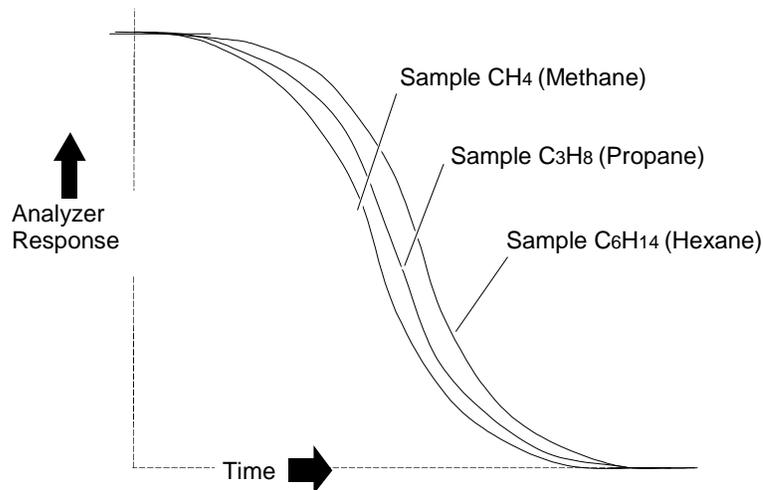

FIGURE 3-2. TYPICAL CURVES OF DOWNSCALE RESPONSE VS. TIME FOR VARIOUS HYDROCARBONS
3. Refer to Figure 3-2 for typical curves of downscale response versus time for various hydrocarbons.